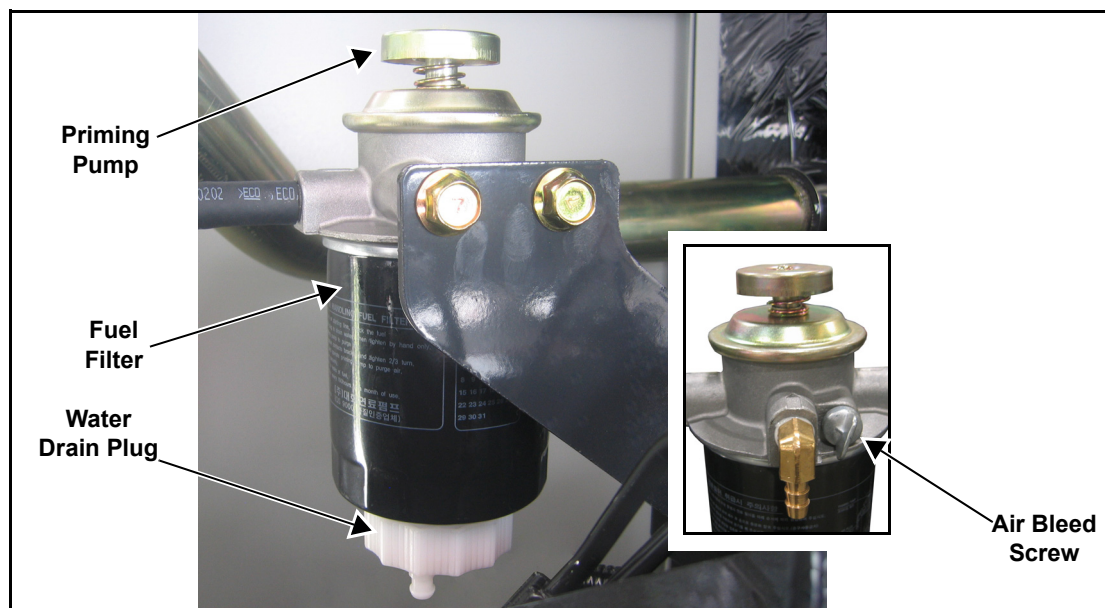

Figure 5-18. Prime Fuel System
1. Slowly loosen water drain plug. See Figure 5-18.